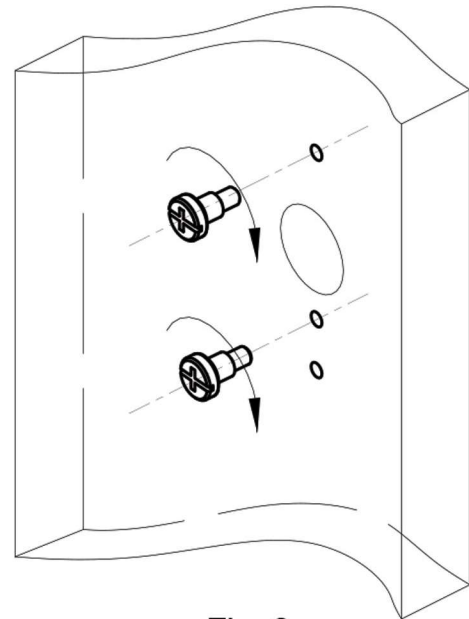

Fig. 3
2. Use the two 8-32 mounting screws to mount onto the door. (Figure 3)